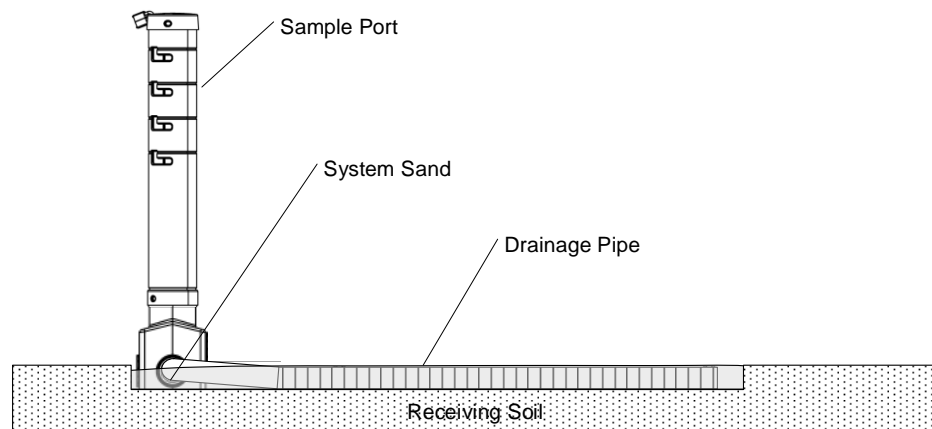

Figure 48
- Add a 100 mm layer of System Sand around the base unit of the sample port, the return pipe and the drainage pipe. See Figure 48.